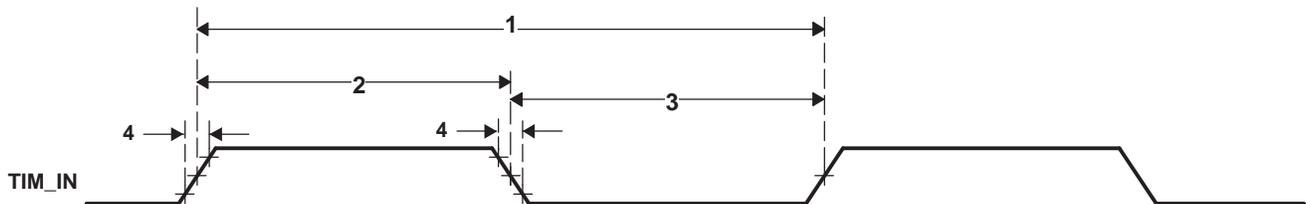

Figure 6-71. Timer Timing
Table 6-100. Timing Requirements for Timer Input^{(1) (2)} (see Figure 6-71)